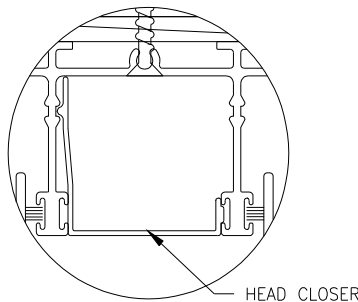

Figure 29:
- Install head closer(s) into the head except where the closer interferes with sliding panel(s) (Figure 29).